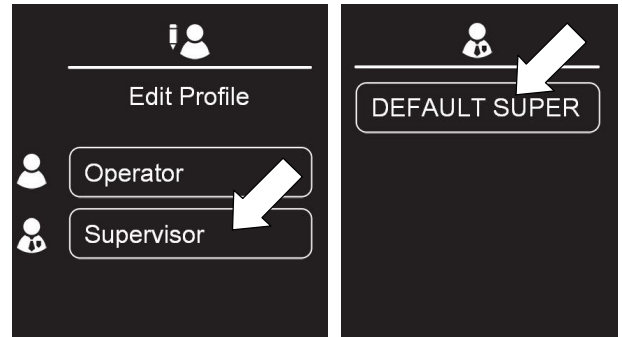

FIG. 174
4. Press the Supervisor button then press the DEFAULT SUPER button (Figure 174 ).